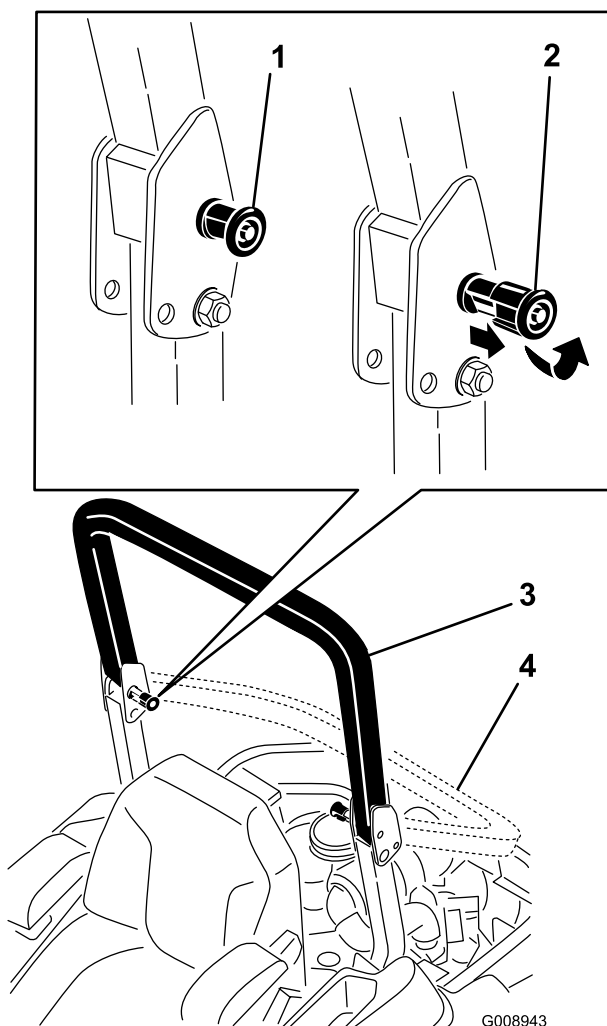

Figure 8
2. Pull both knobs out and rotate them 90° so they are not engaged (Figure 8).
3. Lower the roll bar to the down position (Figure 8).
- To raise the roll bar, raise the roll bar to the operate position, rotate the knobs so they move partially into the grooves (Figure 8).
- Raise the roll bar to the full upright position while pushing on the upper roll bar and the pins will snap into position when the holes align with the pins (Figure 8). Push on the roll bar and ensure that both pins are engaged.